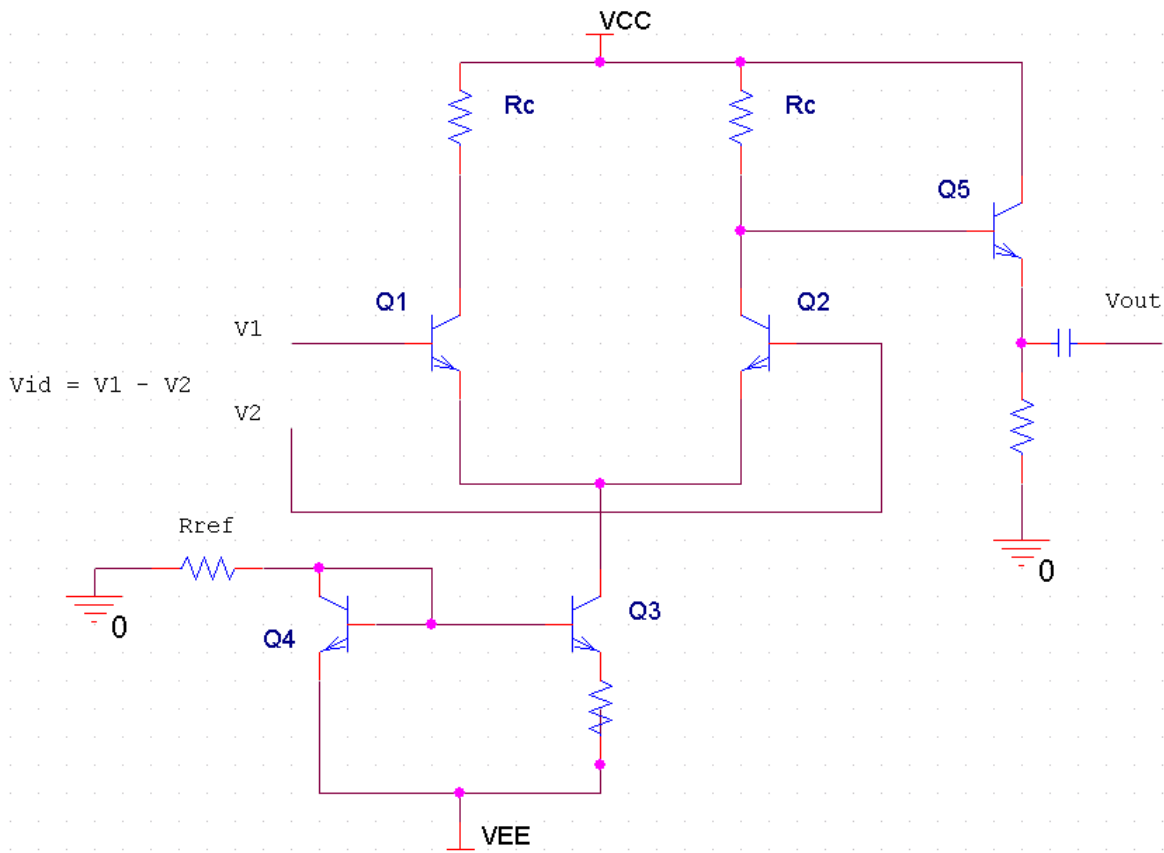

Figure 1.3.
1.4.1. Design and build a simple op-amp circuit (Fig. 1.3) with the same specs as your single stage diff-amp.